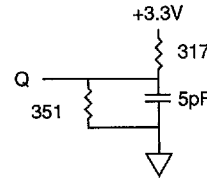

Fig. 2 OUTPUT LOAD EQUIVALENT
- Output loading is specified with CL = 5pF as in Fig. 2. Transition is measured ±500mV from steady state voltage.
- The load used for VOH, VOL testing is shown in Fig. 2. AC load current is higher than the shown DC values. AC I/O curves are available upon request.